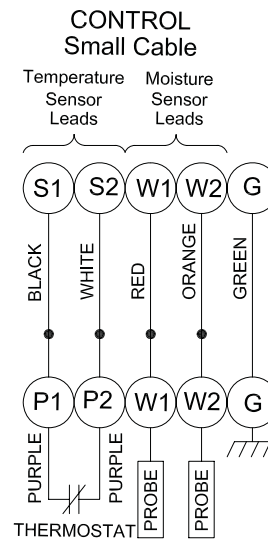

FIGURE 8
Check power cable (10A) and control cable (10D) (if used), on conduit box (10), for cracks or damage and replace complete conduit box assembly (10) if required (see Fig. 5). Bring motor wires through wire opening in top of housing (2), check sleeving (53) and replace if required, position square ring (11) in conduit housing (10) and reconnect motor leads to power cable and moisture and temperature sensor leads to control cable (if equipped) using connectors (12), (17) and insulators (54) as show in Figure 8.